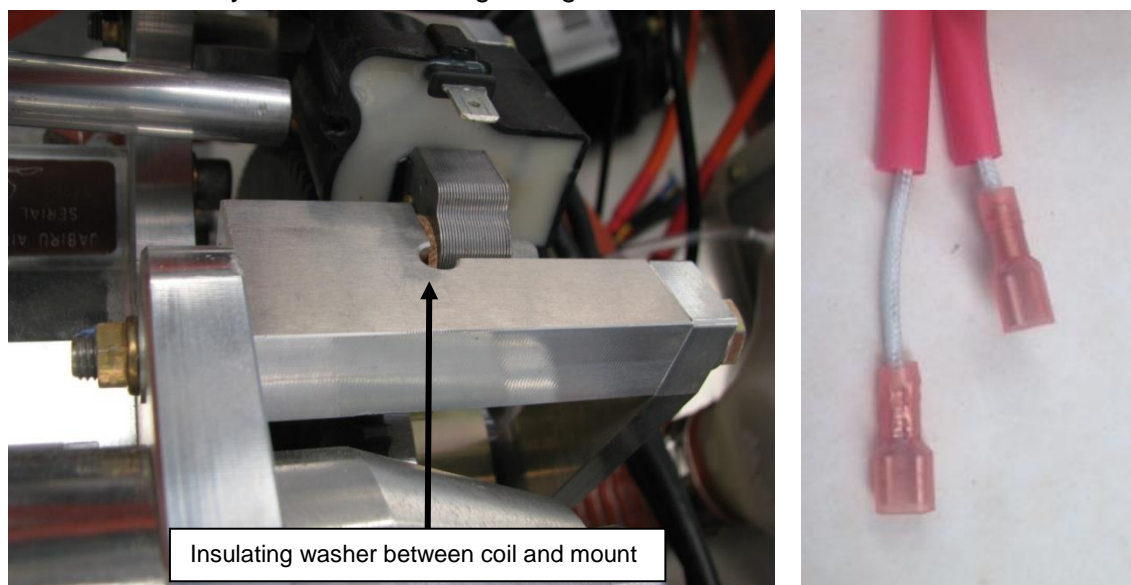

Figure 147 – Ignition Coil Insulating Washer and Stator electrical leads
- The two alternator leads must be of different lengths (at least 25mm difference) to ensure an electrical short cannot occur between the two connectors (see Figure 147 right)